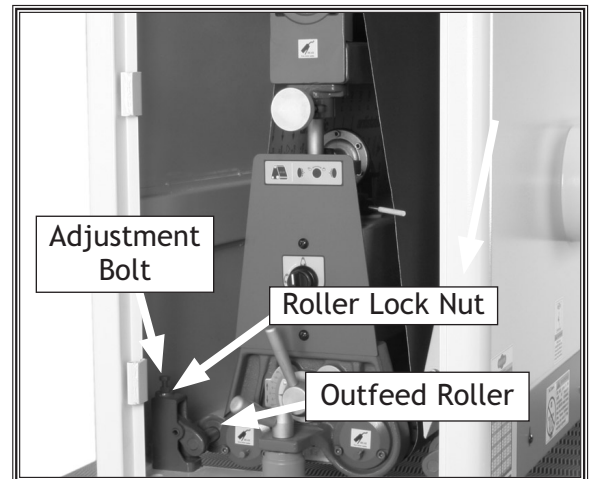
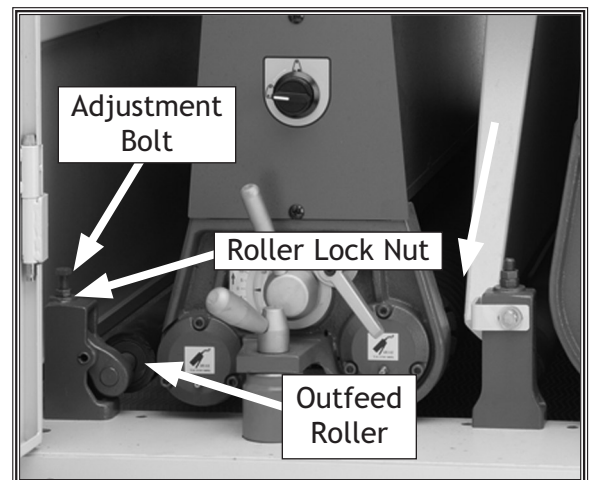

Figure 44. Outfeed pressure roller adjustment locations (W1756).
Figure 45. Rear sanding drum outfeed pressure roller adjustment locations (W1757).
10. Loosen the roller lock nuts on the Model W1756 outfeed pressure roller (Figure 44) or Model W1757 rear sanding drum outfeed pressure roller (Figure 45). Turn the adjustment bolts to lower the pressure roller until it just touches the board.